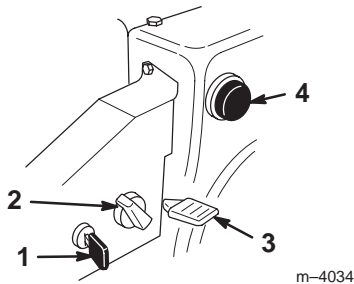

Figure 15
- **Ignition Switch** (Fig. 15)—Insert the key before starting the engine. To stop the engine, remove the key.
- **Choke** (Fig. 15)—Rotate the choke clockwise to the *On* position to start a cold engine. As engine warms up, gradually rotate the choke counterclockwise to the *Off* position.
- **Throttle** (Fig. 15)—Move the throttle upward to increase the engine speed; move it downward to decrease the engine speed. Move the throttle to the *Stop* position to stop the engine.
- **Primer** (Fig. 15)—Press the primer to pump a small amount of gasoline into the engine for improved cold-weather starting.
2. Remove the key from the ignition switch (Fig. 15).
3. Pull the choke knob off (Fig. 15).
5. Rotate the choke (Fig. 15) to the *On* position.
6. Insert the ignition key (Fig. 15).
7. Cover the hole in the center of the primer (Fig. 15) with your thumb and push in the primer 3 times, pausing a moment between pushes.
9. After the engine starts, immediately rotate the choke (Fig. 15) to the 3/4 position. As the engine warms up, rotate the choke to the 1/2 position. When the engine warms up sufficiently, rotate the choke to the *Off* position.